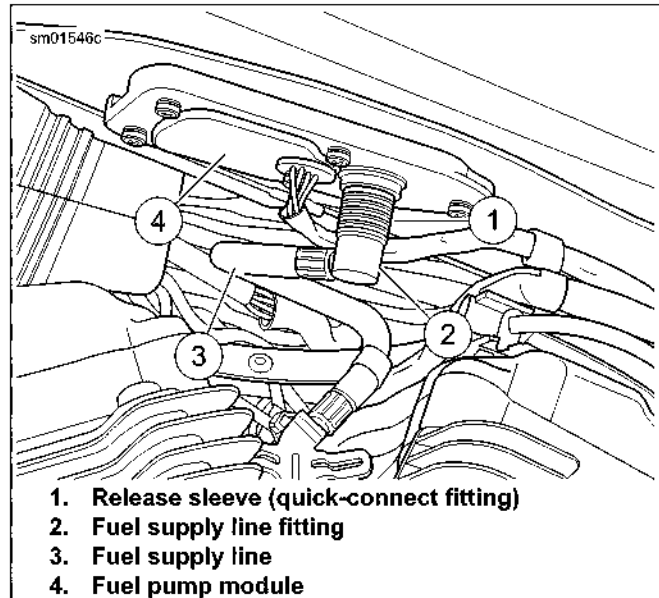
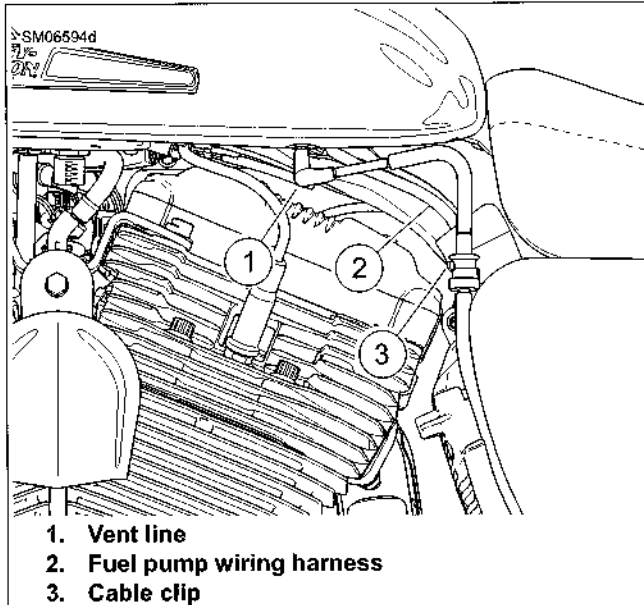
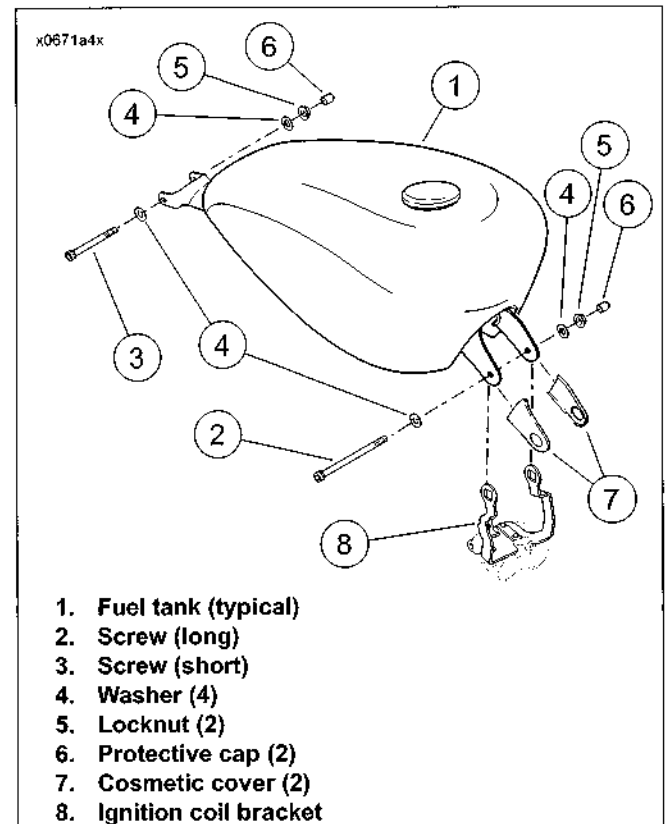

Figure 4-3. Fuel Tank Quick-Connect Fitting
Figure 4-4. Fuel Tank Vent Line
Figure 4-5. Fuel Tank Mounting (typical)
2. See Figure 4-3. Disconnect fuel hose (3) from fuel pump (4):
- a. Push up and hold quick-connect release sleeve (1).
- b. Pull down on fuel supply line fitting (2).
4. See Figure 4-4. Remove vent line (1) from fuel tank vent nipple.
See Figure 4-5. Verify that front fuel tank brackets are located outboard of ignition coil bracket (8).
- a. Place washer (4) on long screw (2).
- d. Hand-start locknut (5).
- b. See Figure 4-5. Place washer (4) on short screw (3).
- e. Hand-start locknut (5).
- g. Install protective caps (6) on screw ends.
8. See Figure 4-4. Install vent line onto fuel tank vent nipple.
1. See Figure 4-3. Connect fuel hose.
- a. Push up on release sleeve (1).
- b. Push fuel hose fitting (2) into fuel pump module fuel pump quick-connect fitting.
2. See Figure 4-4. Install vent hose onto vent nipple on fuel tank.